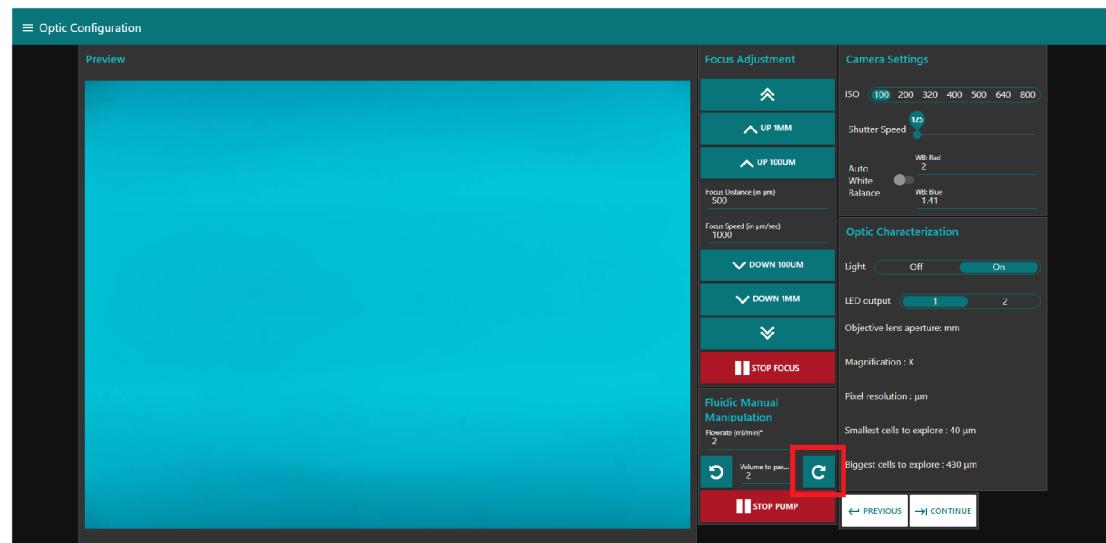

Figure 5: The red square highlights the location of the clockwise arrow that will rotate your Peristaltic Pump in the same direction.
c) Under Fluidic Manual Manipulation (fig.5), **click clockwise arrow** to check that the Peristaltic Pump is working. You should see the pump rotating in an clockwise direction. You can choose to pass a volume, but keep in mind that **this parameter will not impact the acquisition**. On the other hand, the flowrate parameter will also be effective during an acquisition.